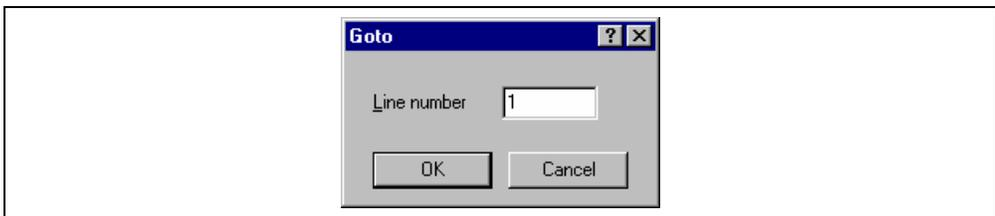

Figure 4.5: Goto Dialog
2. Select [**Edit->Goto Line...**], press **CTRL+G**. or select [**Goto Line...**] from the editor window’s local menu. A goto line dialog box will be displayed (figure 4.5).